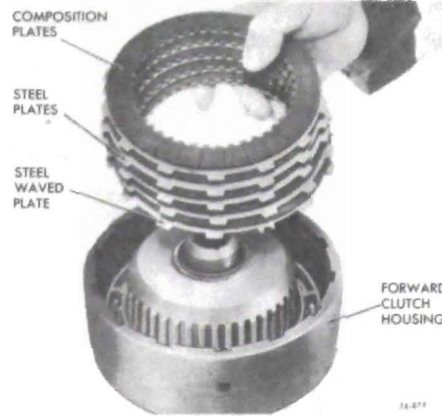

Figure 76-665
10. Oil and install five (5) radial groove composition, four (4) flat steel clutch plates and one (1) waved steel plate (plate with notches), starting with waved steel and alternating composition and steel plates. See Figure 76-665.